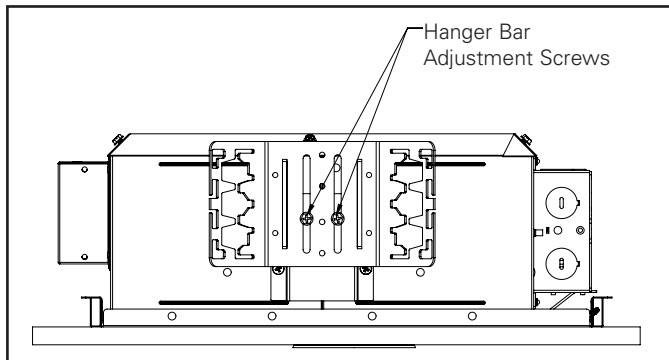

Figure 6.
3. Hanger bar bracket should be adjusted as needed (screws, see figure 6).